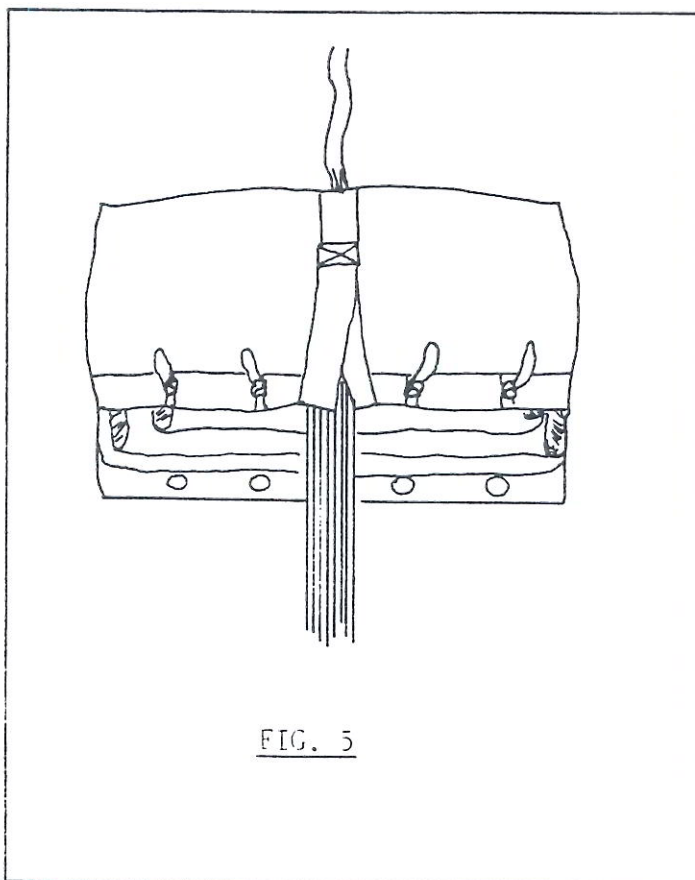

FIG. 5
- 7) Pull the bag down onto the canopy. Try to fill the corners and sides of the bag to distribute the bulk evenly and avoid forming a lump in the middle (FIG. 5). Mate the velcro to close the split in the center of the bag.